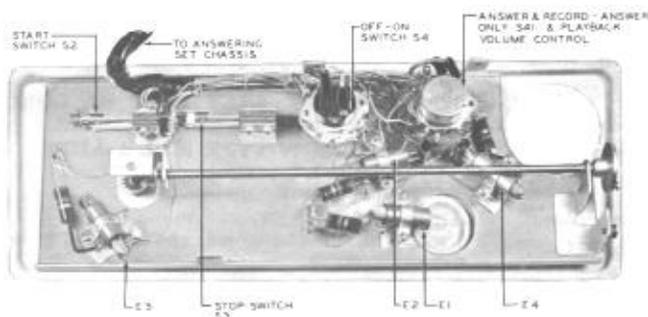

Fig. 8—IB Telephone Answering Set—Back of Front Panel Showing Lamps and Switches
2.16 The K2-type switchboard lamps are used for lamps designated E1 (ON-OFF), E2 (ANSWER AND RECORD), E3 (DICTATE), and E4 (ANSWER ONLY). They are removed by grasping the wooden base of the lamp with long-nose pliers and carefully withdrawing from the lamp socket (see Fig. 8).
2.18 The tips of the K2-type lamps should be inserted into the hole in the sleeve of the ANSWER AND RECORD and ANSWER ONLY indicators (see Fig. 8).